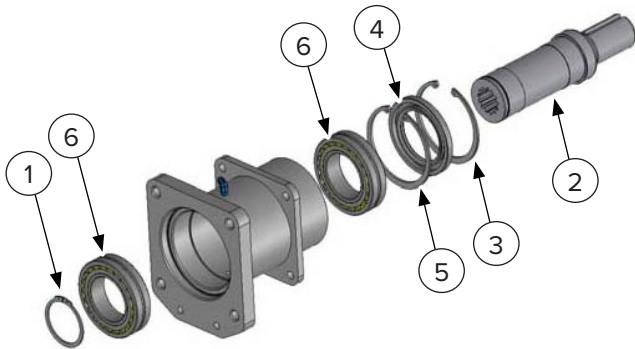

Figure 29
1. Remove the overhung load adapter shaft retaining ring [Figure 29, Item 1].